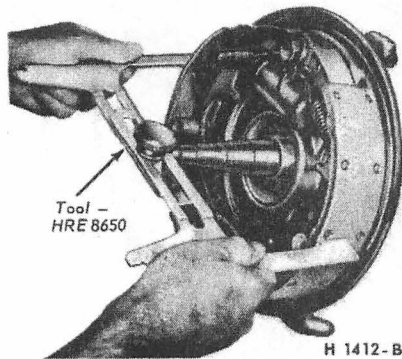

FIG. 6—Measuring The Brake Shoes
2. Reverse the tool as shown in Fig. 6 and apply to the brake shoes. Adjust the brake shoe diameter to fit the gauge. **Hold the automatic adjusting lever out of engagement while rotating the adjusting screw, to prevent burring the screw slots.** Make sure the adjust-